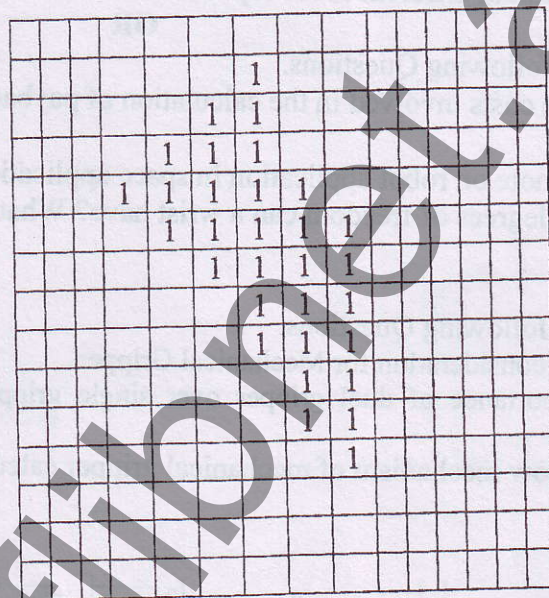

Fig.2 Ques. 3(d)
- (d) Compute the area, centroid, aspect ratio and orientation of the binary image shown in Fig.2